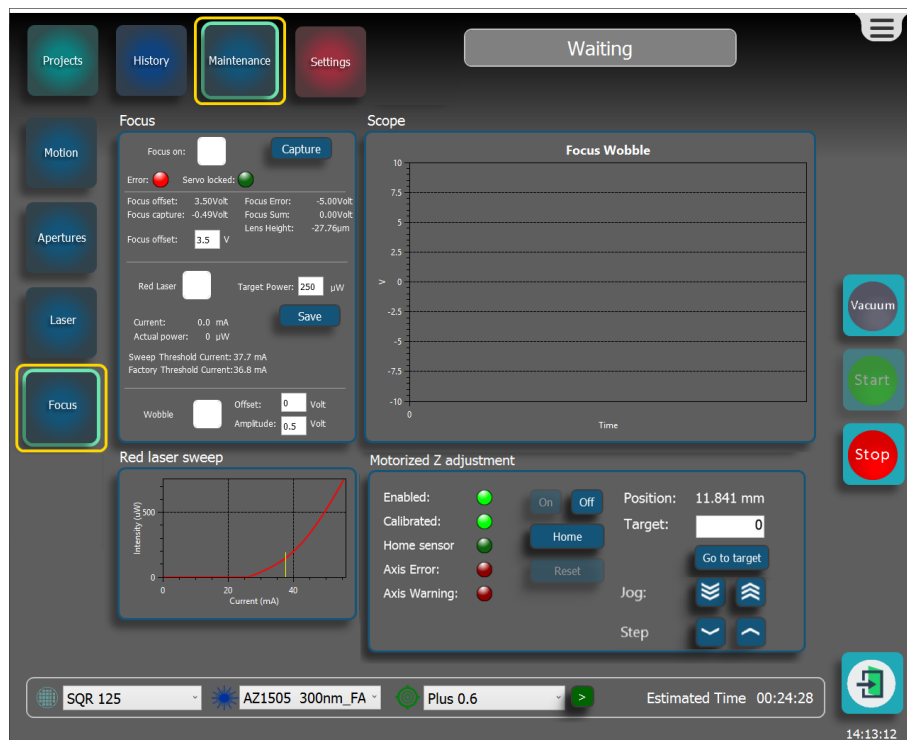

Figure 3-17 Starting semi-automatic height adjustment
2. Select the **Maintenance** tab in the top bar, see **Figure 3-17** below.
14. At **Position** (**Figure 3-17 on the previous page**), check the actual distance between the writing module and the vacuum chuck and compare it to the known substrate height, see **Figure 3-18 below**.